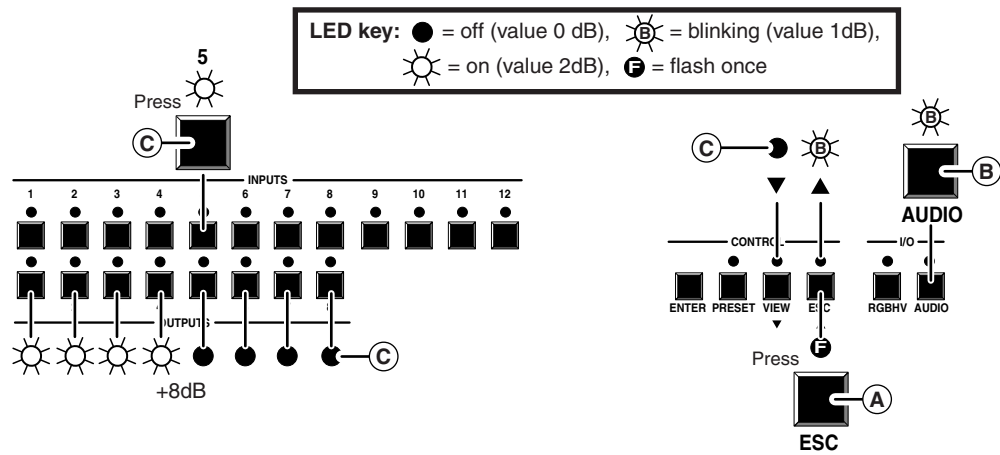
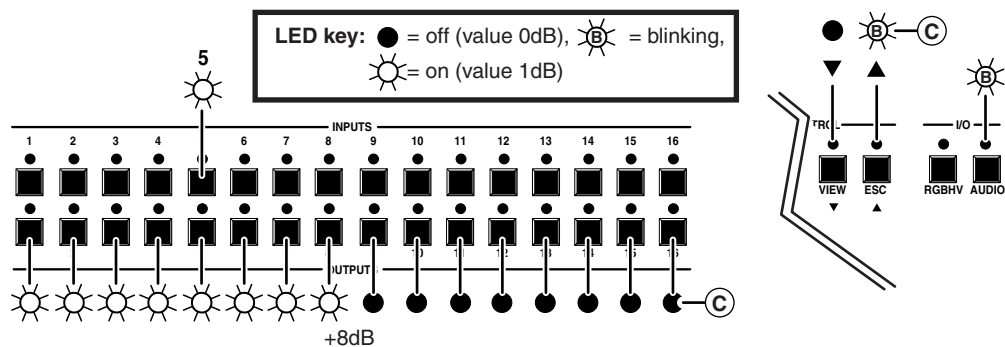
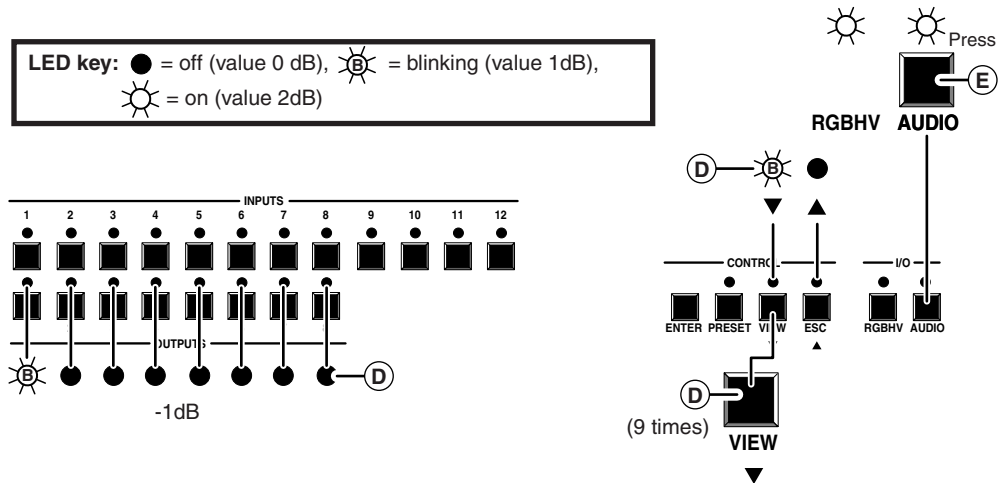
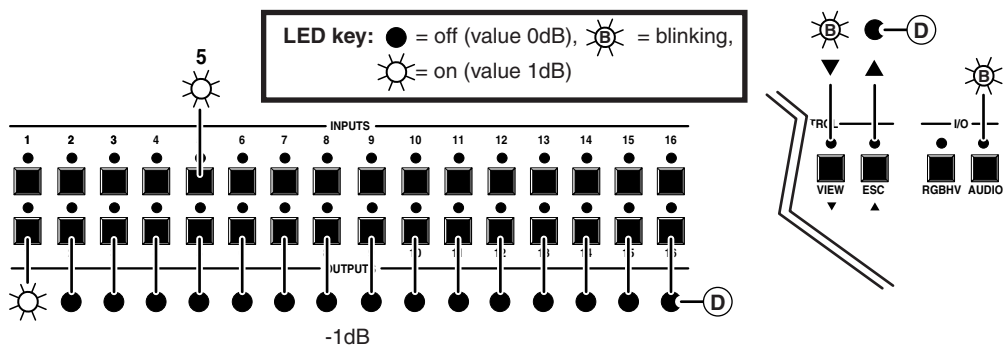

Figure 3-16 — Example 8: Viewing the audio level, CrossPoint Plus 84, 88, 124, and 128
Figure 3-17 — +8dB displayed, CrossPoint Plus 168 and 1616
Figure 3-18 — Example 8, step d: Adjusting the audio level, CrossPoint Plus 84, 88, 124, and 128
Figure 3-19 — -1dB displayed, CrossPoint Plus 168 and CrossPoint Plus 1616
Refer to figure 3-16, figure 3-18, and the following steps for an example of viewing and adjusting the audio level. Audio gain and attenuation is displayed differently on the CrossPoint Plus 168 and 1616, but the steps for displaying the value are the same. For this reason, figure 3-17 and figure 3-19 show the indications displayed on the CrossPoint Plus 168 and 1616 without duplicating all of the actions shown in figure 3-16 and figure 3-18.
Figure 3-16 and figure 3-17 show an audio level of +8dB displayed in the output LEDs on the two different CrossPoint Plus front panels.
- (D) Press and release the View (▼) button once to decrease the audio level displayed in the output LEDs by 1dB. Press and release the View (▼) button several more times to decrease the audio level displayed in the output LEDs by an additional 1dB per button push. Note the output LED, View LED, and Esc LED changes that occur each time the View (▼) button is pressed and released. Figure 3-18 and figure 3-19 show the result of pressing the View (▼) button a total of 9 times.